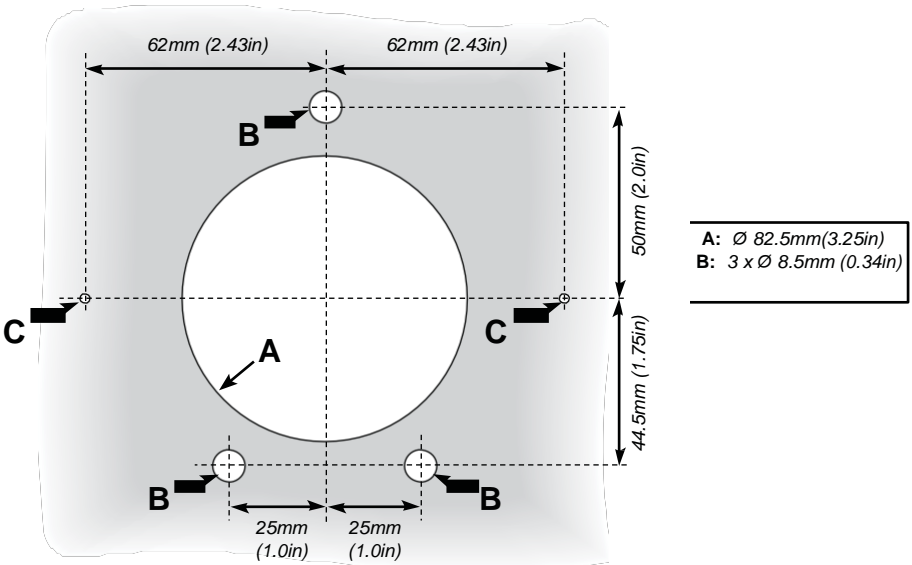

Fig B8 - Mounting holes for 90° bezel plates
- Prepare dashboard to receive drive bezel plate. Refer to Fig B8 or use the bezel plate as a template for the mounting holes that will need to be drilled.